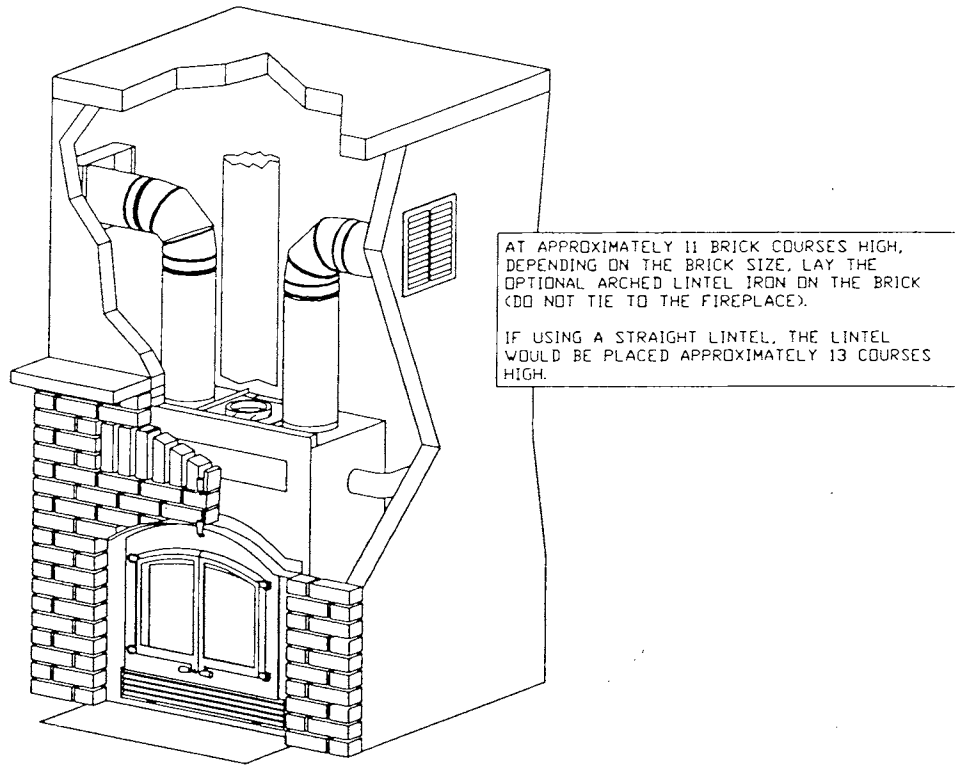

FIG. 12
4. At approximately 11 brick courses high (depending on the brick size) lay the optional arched lintel iron on the brick (do not tie to the fireplace). See Figure 12.
- B. To achieve the required air flow **BOTH** 8" heat ducts must be used as well as the soldier brick. See figure 12 above.